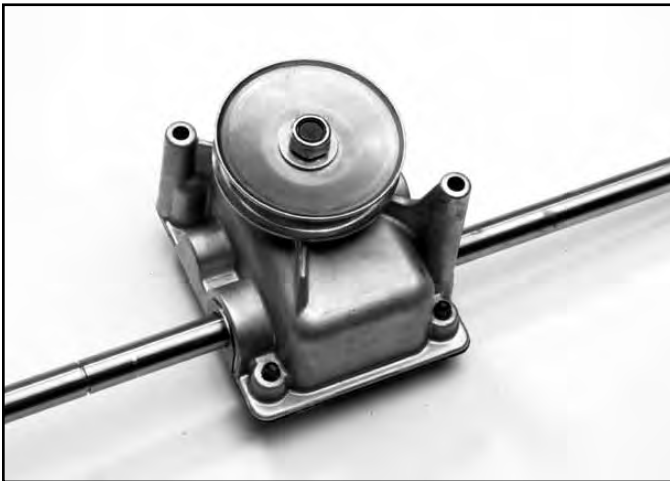

Fig 031 3428-0074
7. The transmission can be moved to the right until the short end of the axle clears the housing and the transmission can be removed (Fig. 031). Some models have the axle shaft retained by an end cap.